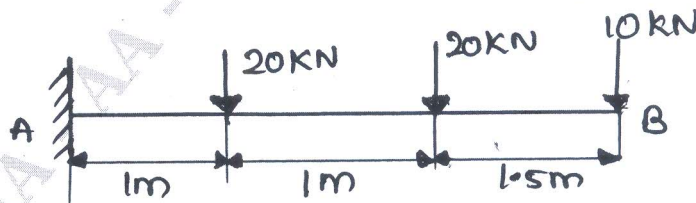

Fig Q3(b)
- b. Draw the BMD and SFD for a cantilever beam shown in the Fig Q3(b) (06 Marks)